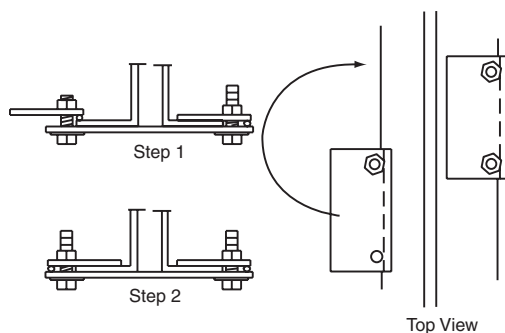

Fig. G-2
- ④ For Beam attachments, loosely bolt one spacer flat to mounting plate (for winch, safety belt, or other), and bolt one end of spacer flat to other side. Slide bolted end onto beam, then rotate other spacer flat over other side of beam (see Fig. G-2). Tighten bolts.